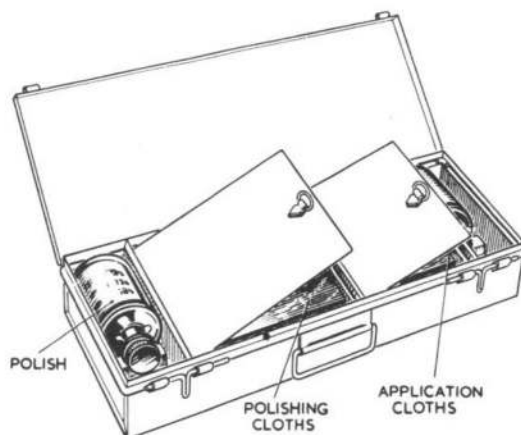

Fig. 1. Plastic polishing set
12. The plastic polishing set (Stores Ref. 33D/390) consists of two 4 oz. bottles of polish to D.T.D.770A, and a supply of application cloths to D.T.D.763, all contained in a metal box (Fig. 1).